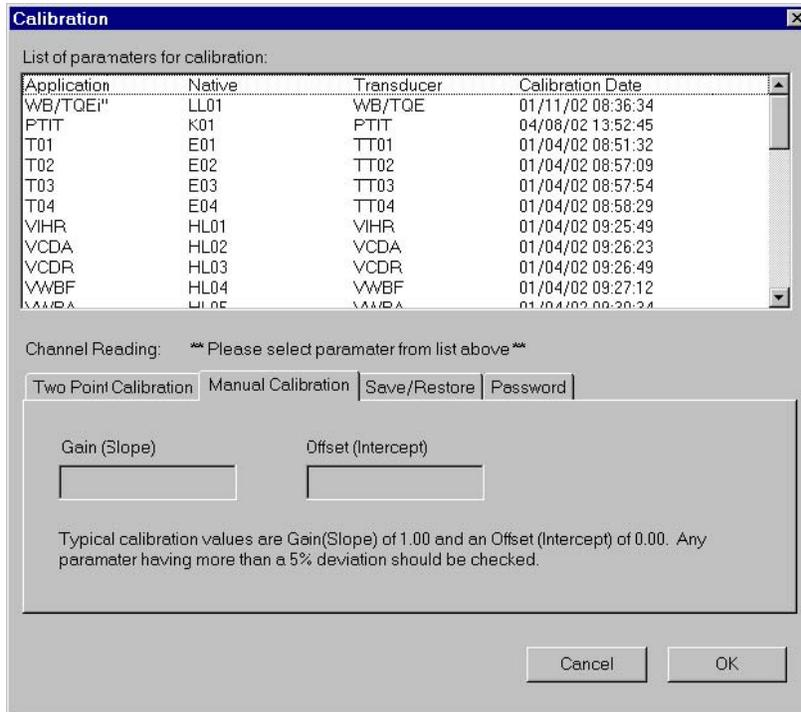

Figure 8. Typical Manual Calibration Screen
- (1) Perform the procedures of Section C.
- (2) Select the channel to be calibrated and double click.
- (3) Click the Manual Calibration tab.
- (4) Enter gain value (slope) and offset value (intercept) as shown in Figure 8.